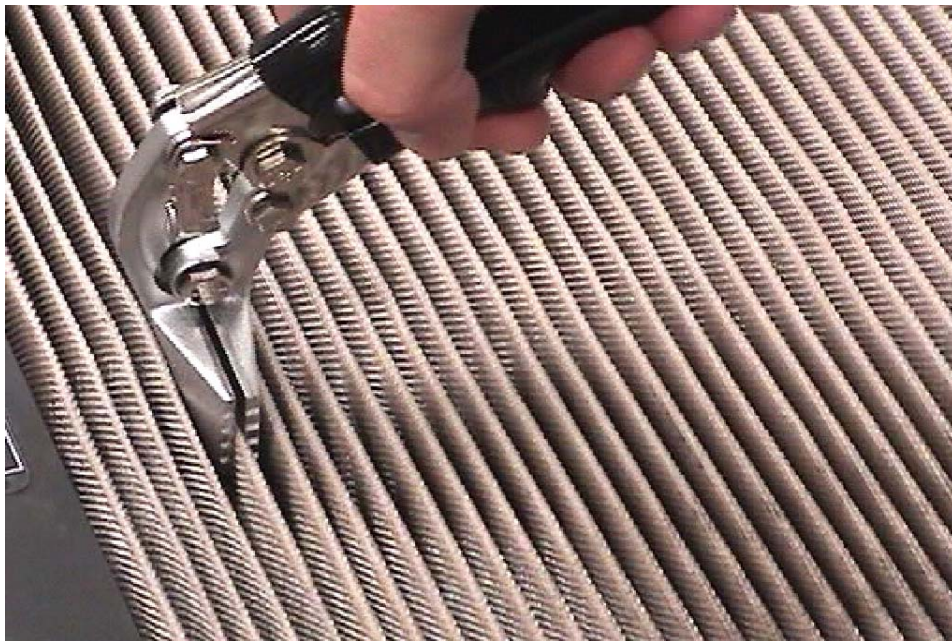

Figure 8-1: METHOD FOR STRAIGHTENING PLEATS WITH HAND SEAMER
After servicing of the filter assembly or at any time the filter assembly is inspected, the pleats may require straightening or crimping. If you cannot see the bottom of the pleat, the airflow will be restricted and/or the pleats will adhere to one another when dirt loaded. Any restriction to the flow through the pleats will result in increased differential pressure and reduction in dirt loading capacity. In order to insure ideal flow characteristics through the filter media, the pleats must be straightened or crimped with a hand seamer (see Figure 8-1).
- a. If you cannot see the bottom of a pleat, use a hand seamer (See Special Tools/Special Equipment, Section 8.8.a.) to crimp and straighten the pleat (See Figure 8-1). Sight down the length and depth of the pleat to confirm the pleat is straightened.